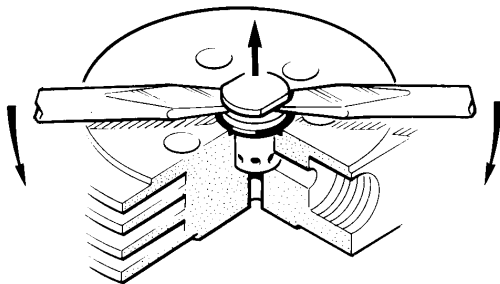

Fig. 31 Removal of 3rd stage pressure valve
- Remove two captive nuts (1) and spring-washers (2).
- Remove plate (3).
- Remove valves (4) and (7) using two screw-drivers as shown in Fig. 31.
- Assemble in reverse sequence. Position spring-washers with curved side facing upwards. Fasten nuts so that plate (3) is parallel to the valve head. Torque with 10 Nm (1 kpm).
- Unwind torque stud (1) a couple of turns.
- Remove allen screws (7), take off valve head cover (6).
- Put two screwdrivers into the groove of pressure valve body (Fig. 31). If necessary turn valve loose at first using a 13 mm spanner on the flat surfaces.
- Lift out pressure valve (3) together with O-ring (2).